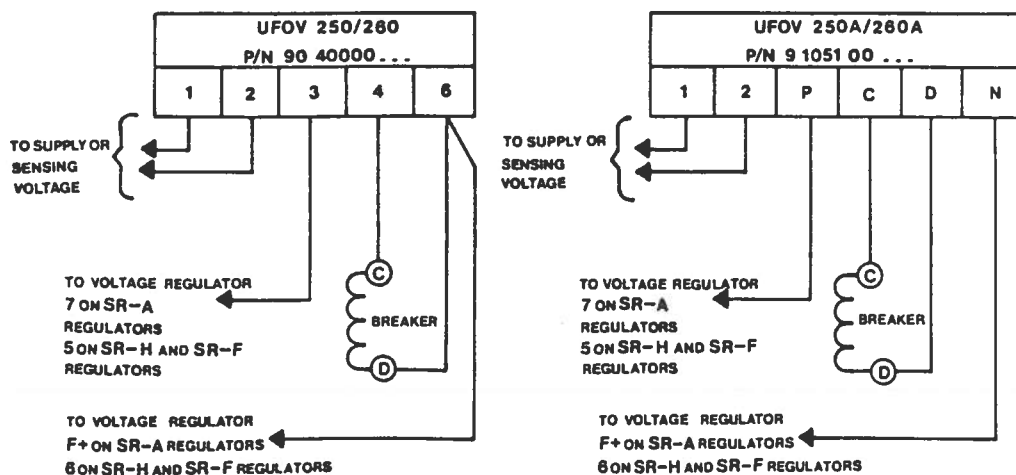

Figure 3-1
3.2.3.1 When the UFOV 250A/260A is used in conjunction with the EMI filter pack, the UFOV module terminal N must be connected directly to terminal F+ of the voltage regulator. Refer to figure 3-1.
*Note that of the two connections previously made at terminal 6 see figure 3-1, only one of them (terminal D of the breaker) is connected to terminal "0" of the UFOV 250A/260A. The second connection is made to a new terminal "N".